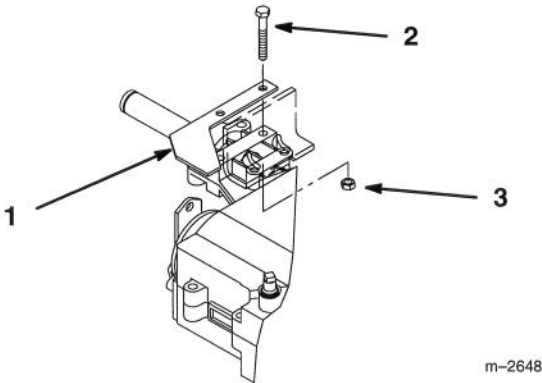

Figure 5
1. Clean right side of transaxle case above axle. Align stop plate on transaxle housing and secure with (2) 5/16-18 x 2-1/4" (57 mm) bolts and 5/16" (8 mm) lock nuts (Fig. 5).